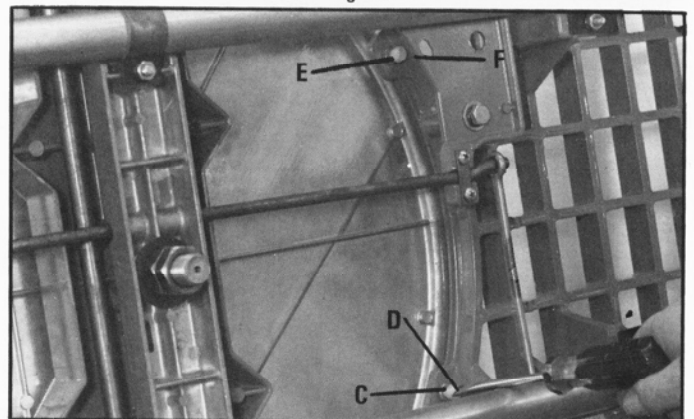

Fig. 40
2. If an adjustment is necessary, the center disc can be moved up or down by loosening lock nut (C) Fig. 40, and turning leveling screw (D) with a screwdriver.
4. If an adjustment to the front portion of the center disc is necessary loosen lock nut (E) Fig. 40, and turn leveling screw (F).